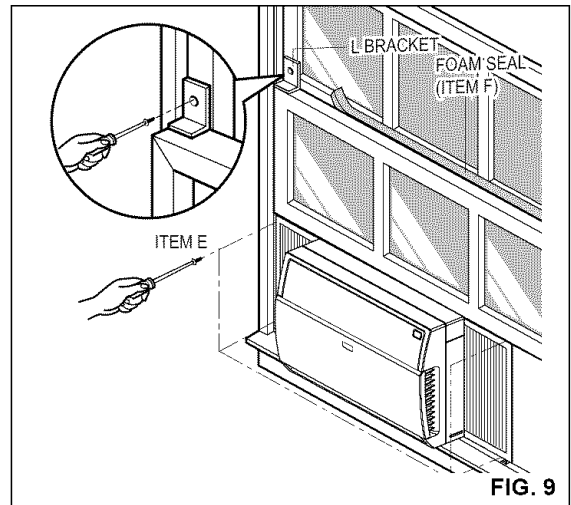

FIG. 9
Expand the curtain frames and secure them using 4 screws (ITEM E) as shown in FIG. 9.
- Cut the foam seal (ITEM F) to the window width. Stuff the foam seal between the glass and the window to prevent air and insects from getting into the room, as shown in FIG. 9.